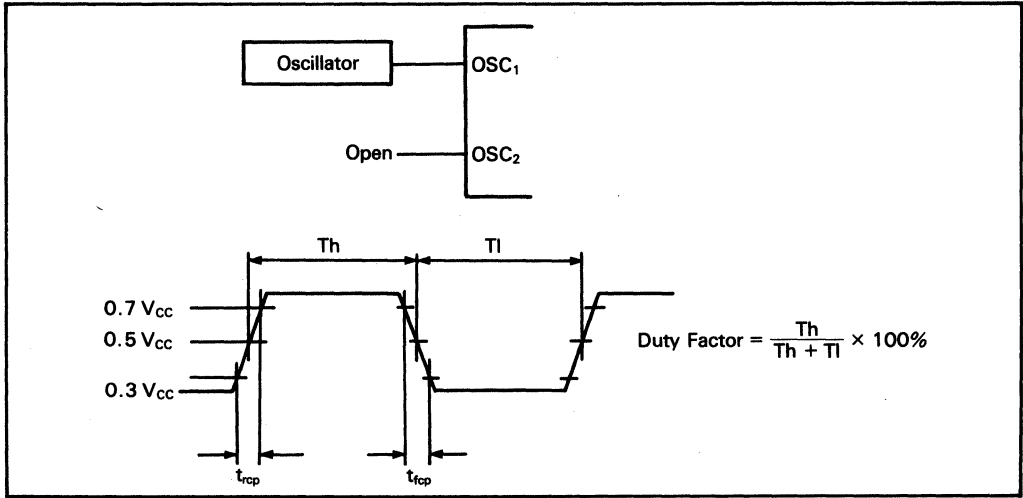

Figure 44 External Clock
7. External clock operation as shown in figure 44.